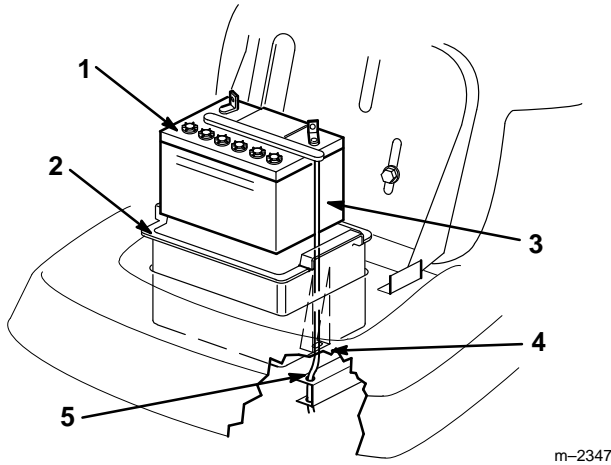

Figure 20
5. Remove the battery box, battery, and long vent tube from the chassis (Fig. 20).
1. Put the battery into the battery box and slide the vent tube into the channel and through the slot in the bottom of the box (Fig. 20).
**IMPORTANT:** Look down into the cut out area where the battery box fits into the chassis. Notice the holes at the end of the right frame member (Fig. 20). Always install the long battery vent tube through the holes to prevent battery acid from corroding the tractor and mower.
2. Install the battery box and battery into the chassis (Fig. 20). Make sure to slide the end of the vent tube through the holes in the frame (Fig. 20).